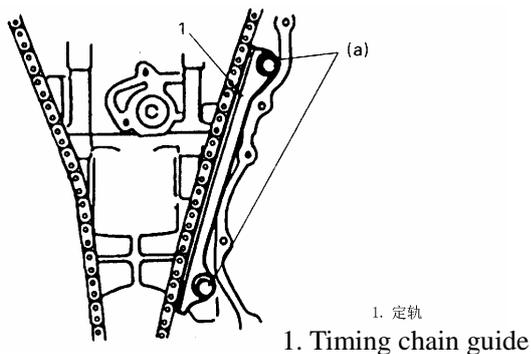

Fig. 4-106
7) install timing chain guide as shown in Fig. 4-106.